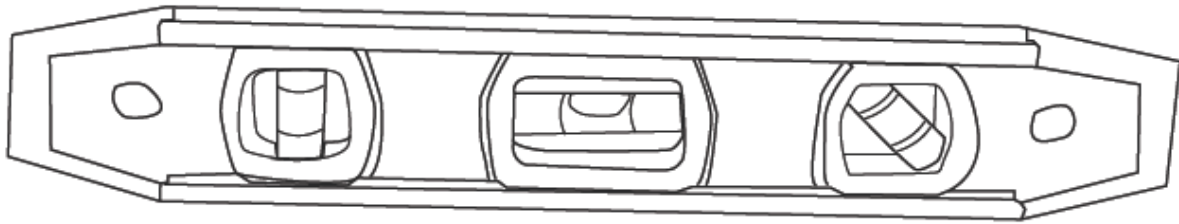

Figure 18
- 18) Adjust the top runway of the slide so that it is level, from side to side and lengthwise as shown below in Figure 18.